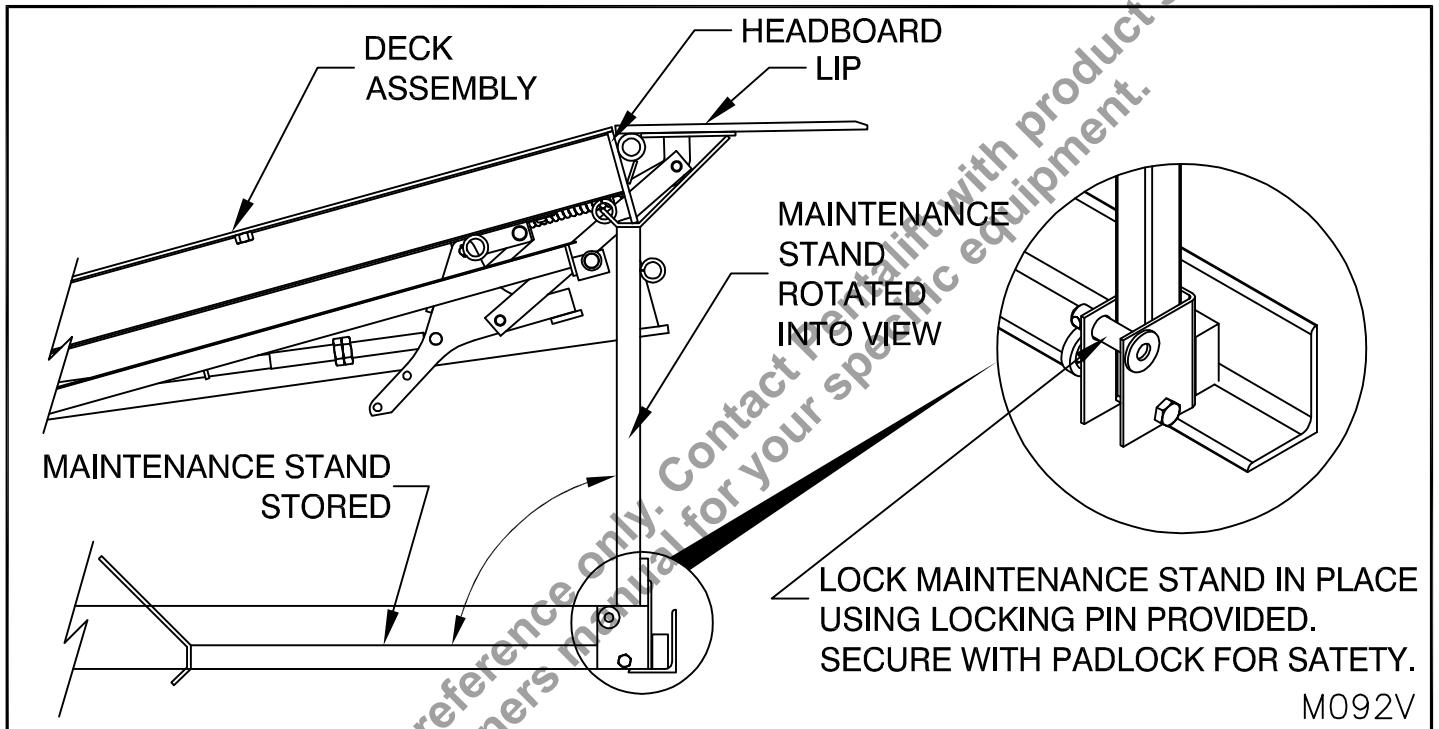
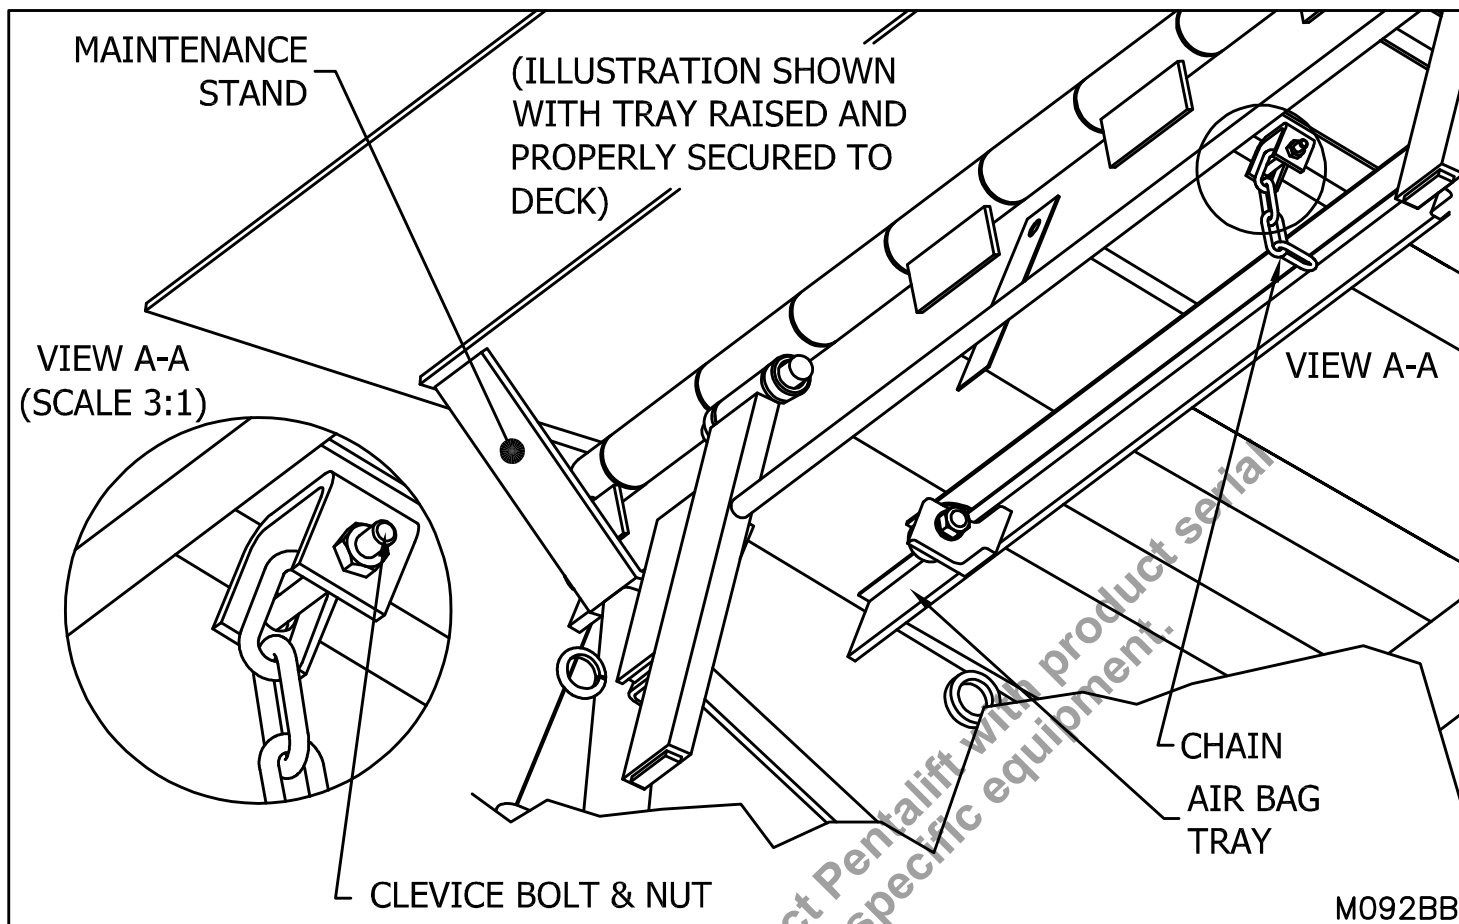

Figure 59: Proper Placement of Maintenance Stand
Figure 51B: Lifting and supporting the Air Bag Tray
See “Figure 59: Proper Placement of Maintenance Stand” on page 50 for the proper placement of the maintenance stand.
2. Facing the front of the Air Powered Dock Leveler locate the Maintenance Stand on left side, pull the Maintenance Stand from the stored position by pulling toward you until the maintenance stand is upright and the locking pin can be inserted and secured with a padlock. Lower the deck assembly until both the deck and lip are supported by the maintenance stand as shown in “Figure 59: Proper Placement of Maintenance Stand” on page 50. If the deck and lip did not properly position, push the raise button to raise the dock leveler and reposition the maintenance stand.
2. When the Air Powered Dock Leveler has been properly secured and locked out, place a suitable lifting device such as a jack with sufficient travel between the underside of the tray and pit floor. Jack to raise the air bag tray so that the clevis bolt and chain can be secured as shown in “Figure 51B: Lifting and supporting the Air Bag Tray” on page 53.
3. Slip the clevis bolt through the chain loop and secure with the nut at the front edge of the tray as shown in “Figure 51B: Lifting and supporting the Air Bag Tray” on page 53.
Quarterly: The air filter must be checked every three months to ensure that it is clean with minimal debris or dirt present. The frequency will depend on the environmental conditions. A dirty filter will prevent the dock leveler from functioning properly. To perform this operation the dock leveler must be properly supported and the tray secured to the underside of the deck ("Figure 59: Proper Placement of Maintenance Stand" on page 50 and "Figure 51B: Lifting and supporting the Air Bag Tray" on page 53).